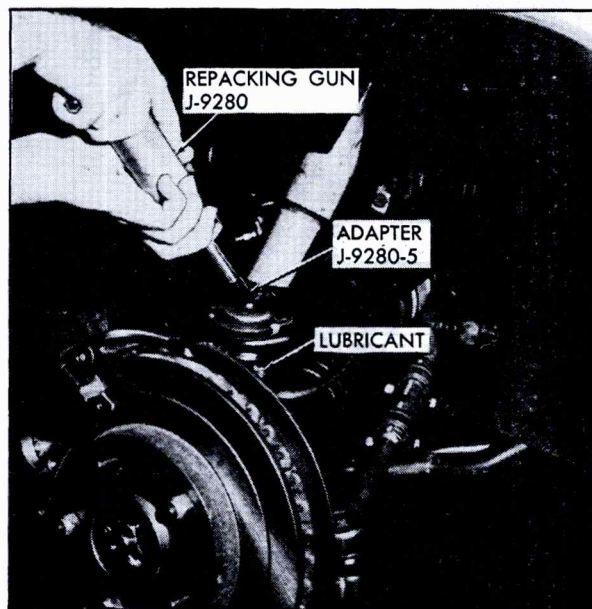

Fig. 3-48 Repacking Upper Spherical Joint (693)
5. Lubricate the spherical joint fitting until grease escapes between seal and steering knuckle, Fig. 3-48.